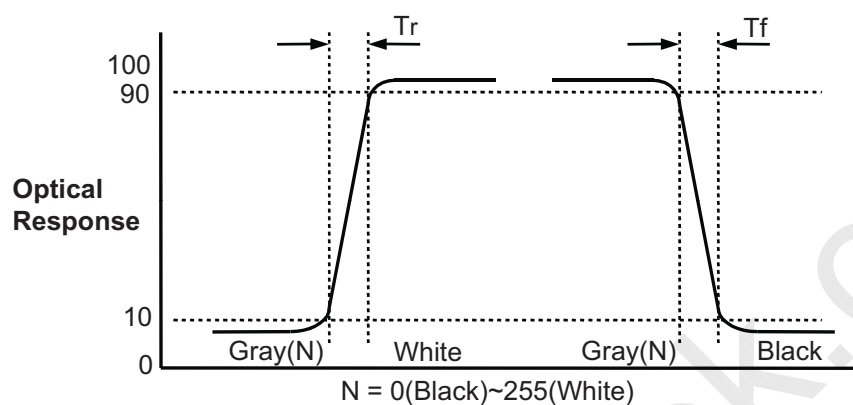

FIG. 2 Response Time
2. Response time is the time required for the display to transit from any gray to white (Rise Time, Tr_R) and from any gray to black (Decay time, Tr_D). For additional information see the FIG. 2.